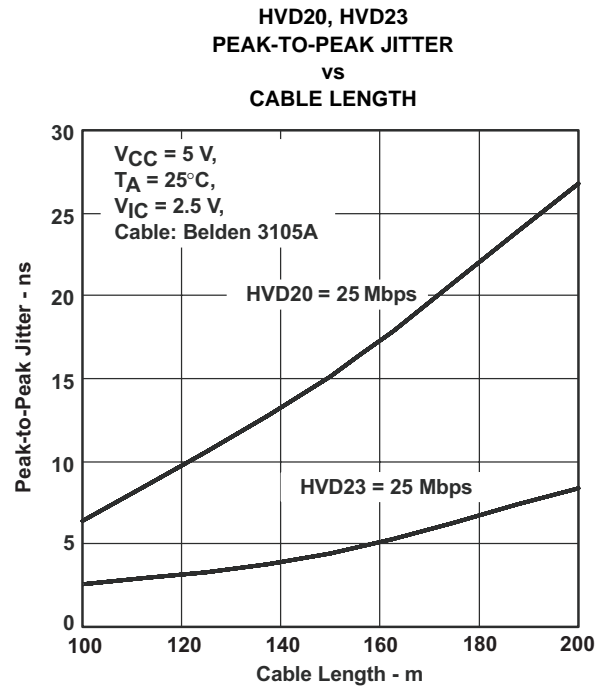
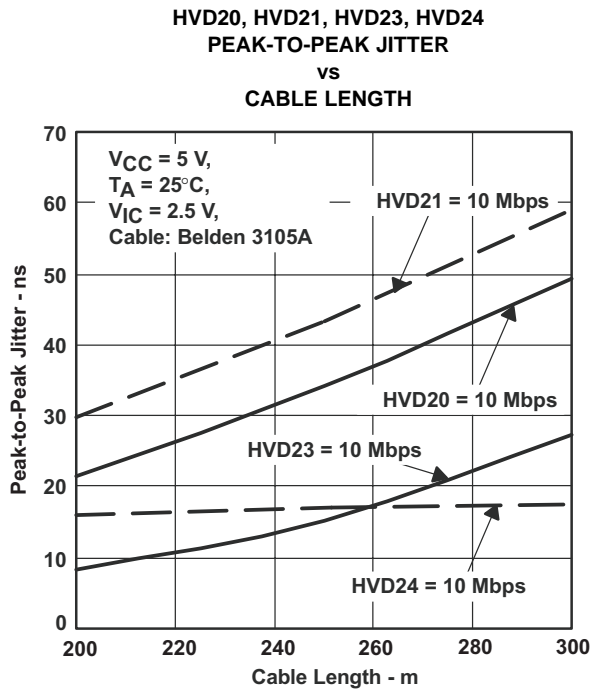
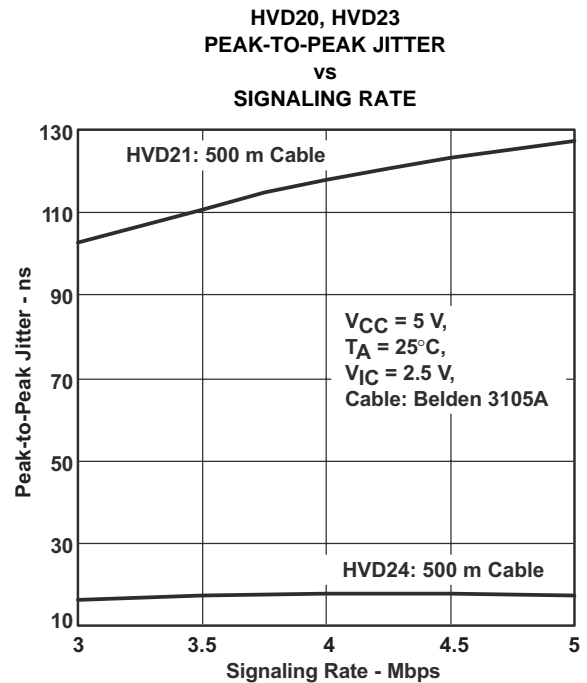

Figure 22.
Figure 23.
Figure 24.
- Added Figure 22, Figure 23, and Figure 24 to the TYPICAL CHARACTERISTICS ..... 15